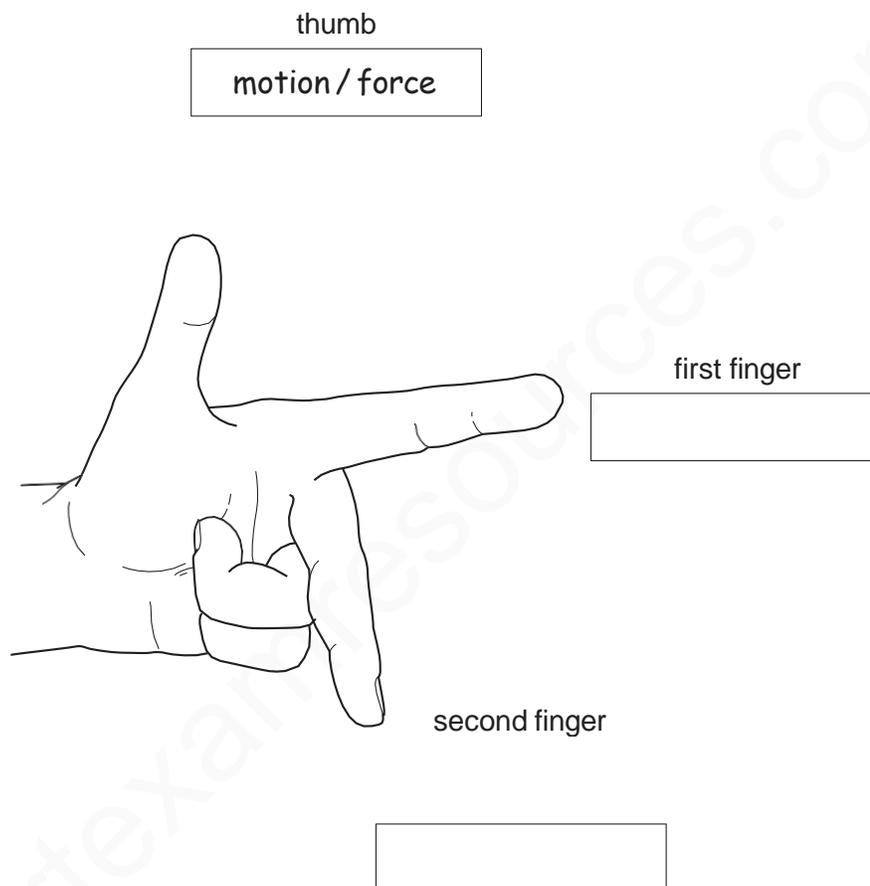

Fig. 9.1
- (a) Fig. 9.1 illustrates the left hand rule, which helps when describing the force on a current-carrying conductor in a magnetic field.